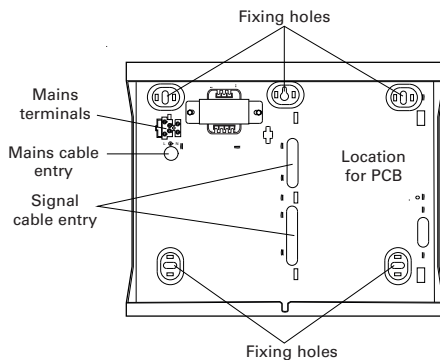

Figure 3. Mounting holes and cable entries
- Cables must enter the control unit using the dedicated cable-entry holes (Figure 3).
Mount the control unit in the orientation shown in Figure 3 using at least 4 fixing holes and minimum 50mm long No10(5mm) screws. Use only the designated cable-entry holes.